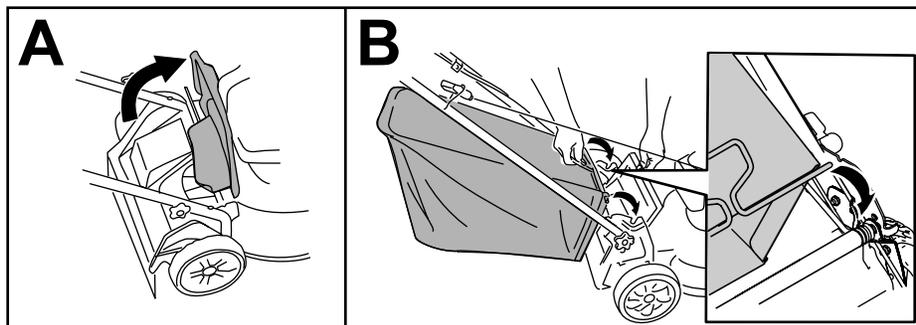

Figure 11
1. Lift up the rear deflector (A of Figure 11).
2. Insert the rod ends of the grass bag into the notches in the handle brackets (B of Figure 11).